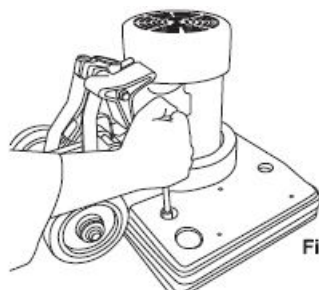

Fig. 3
5. Remove the 4 screws that hold the pad driver with the chassis. (Fig.3).